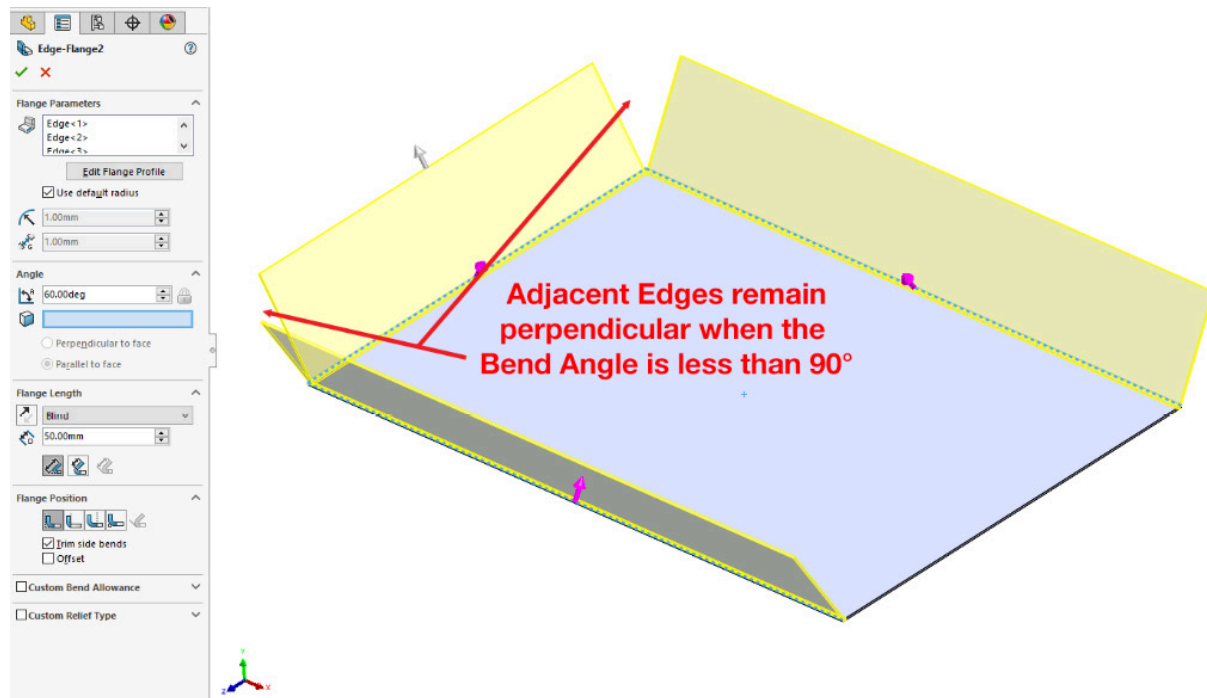

Figure 2.17: If the Bend Angle is less than 90°, the flange edges remain perpendicular
7. Edit the Edge Flange feature again and reduce the **Angle** value to **60°**. Note that if the Bend Angle is less than **90°**, the adjacent edges remain perpendicular to the selected edge. They do not expand to fill the gap between the flanges (*Figure 2.17*).